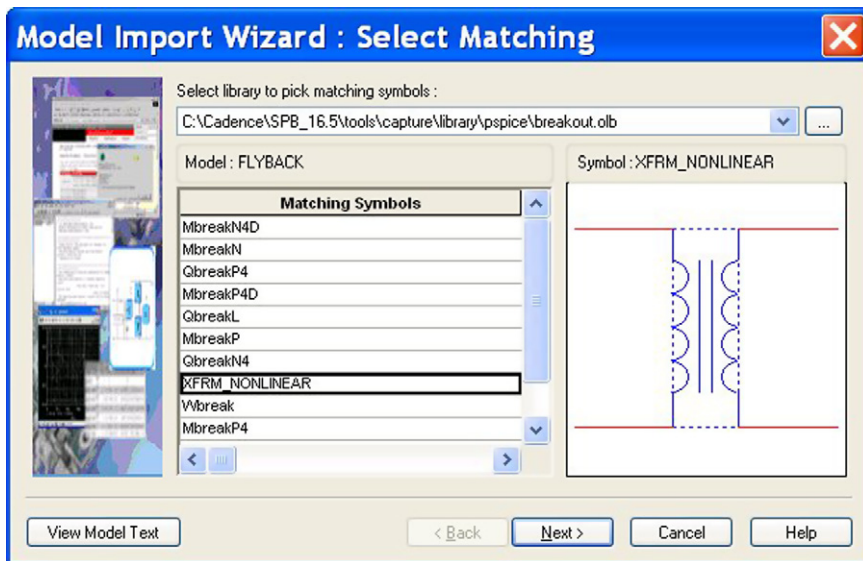

FIGURE 21.23
7. A list of matching symbols with the same number of pins as the flyback model has will be listed. Select the **XFRM_NONLINEAR** transformer as shown in Figure 21.23 and click on Next >.